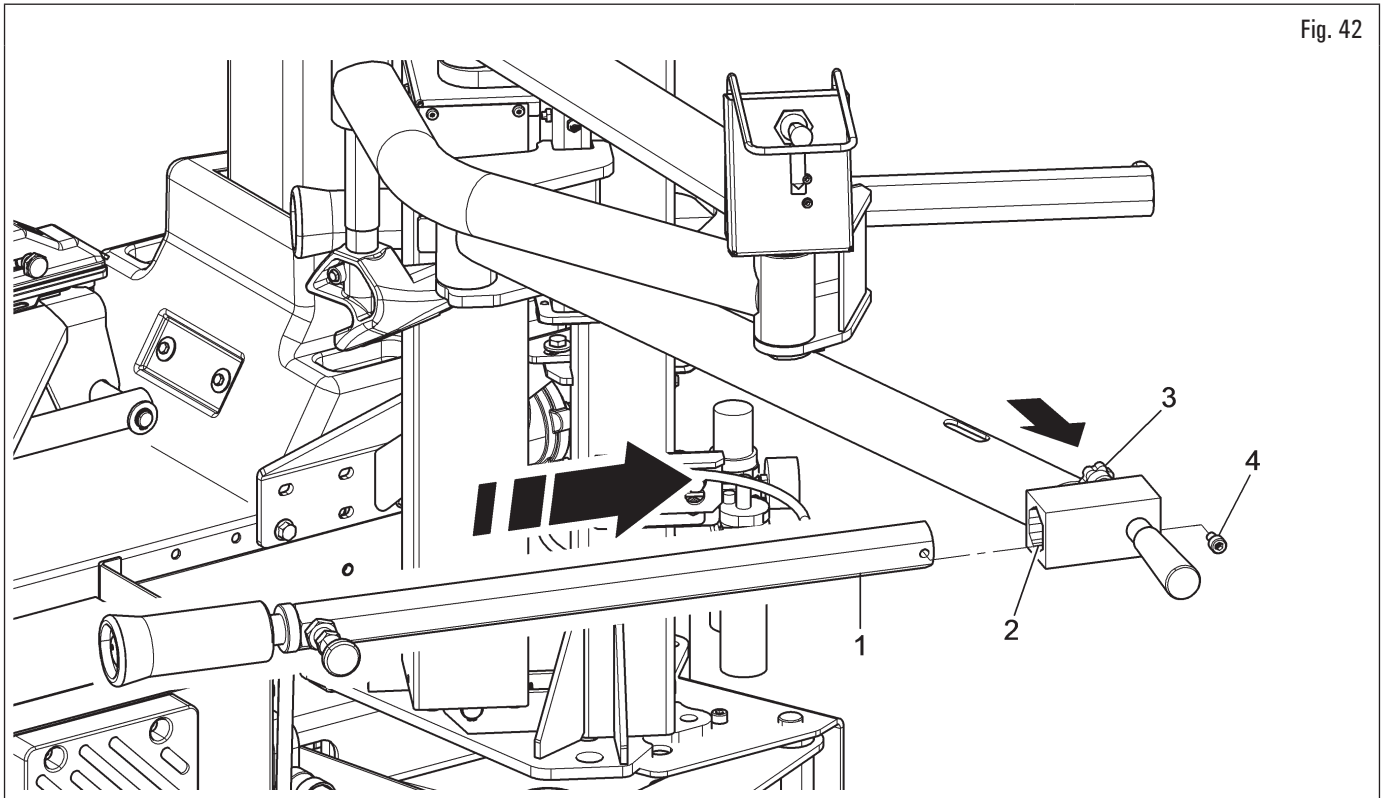

Fig. 42
Fit the lateral arm with roller (Fig. 42 ref. 1) into the proper sea (Fig. 42 ref. 2) locking it using the knob (Fig. 42 ref. 3). Finally, tighten the bolt (Fig. 42 ref. 4) to the hexagonal arm with roller (Fig. 42 ref. 1).